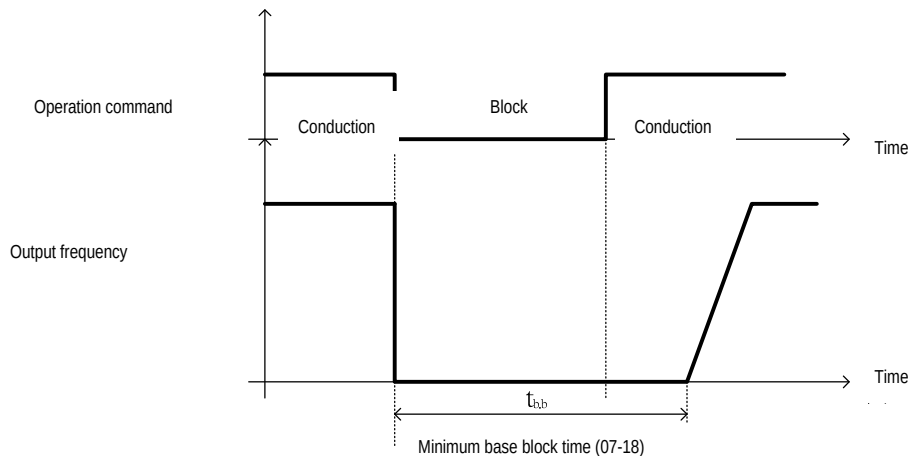

Figure 4.3.59 Coast to stop
(2) 07-09=1:
- Please refer to Figure 4.3.59.